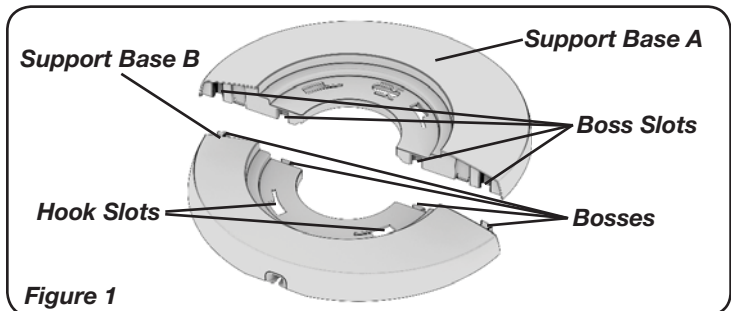
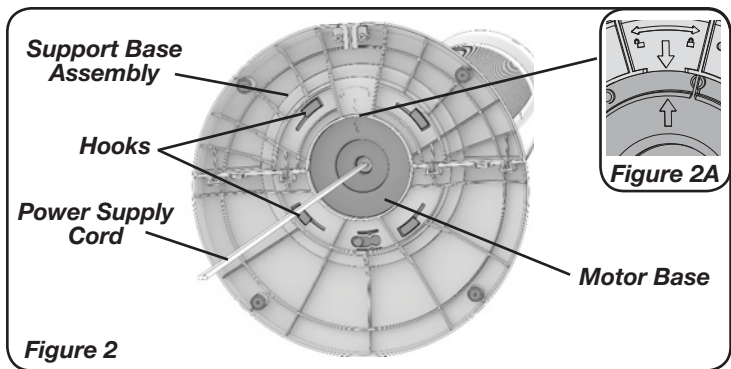

Figure 1
Figure 2
2. Assemble the Support Base Halves by interlocking the *bosses* on *Support Base B* into the *Boss Slots* on *Support Base A*. (*Figure 1*)
3. Align the *Support Base Assembly* with the *Motor Base*. Thread the *Power Supply Cord* through the large hole in the center of the *Support Base Assembly*. Make certain to align the *Hook Slots* (*Figure 1*) on the *Support Base Assembly* with the *Hooks* on the *Motor Base*. The alignment arrow on the *Support Base Assembly* should align with the alignment arrow on the *Motor Base* (*Figure 2 & Figure 2A*).